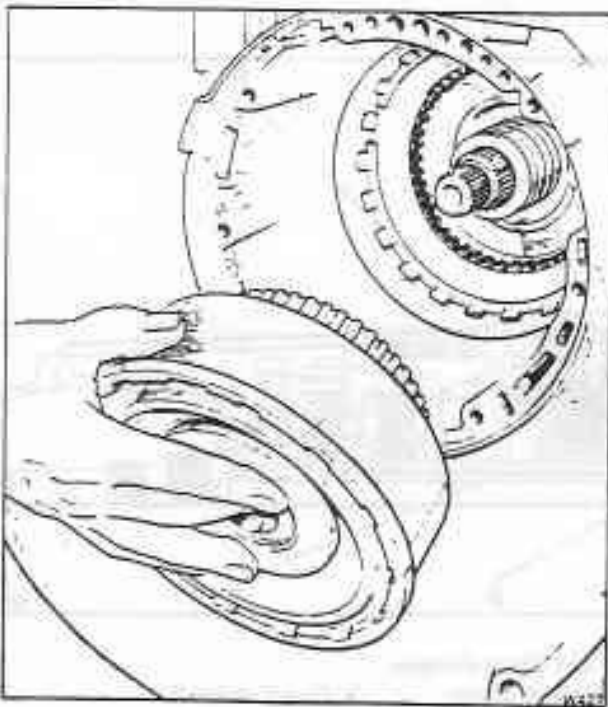

Fig. T18-3 Removing the direct clutch and intermediate sprag assembly
5. Withdraw the direct clutch and intermediate sprag assembly (see fig. T18-3). The sun gear shaft may come out with the direct clutch assembly.